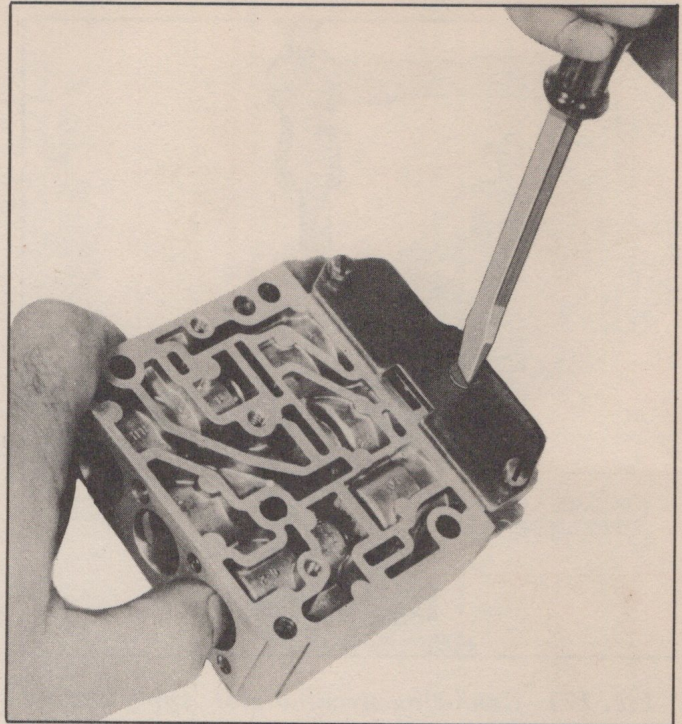

Fig. 177—Removing Front Valve Body Plate
6. Remove three screws holding front valve body plate to front valve body and remove plate (Fig. 177).